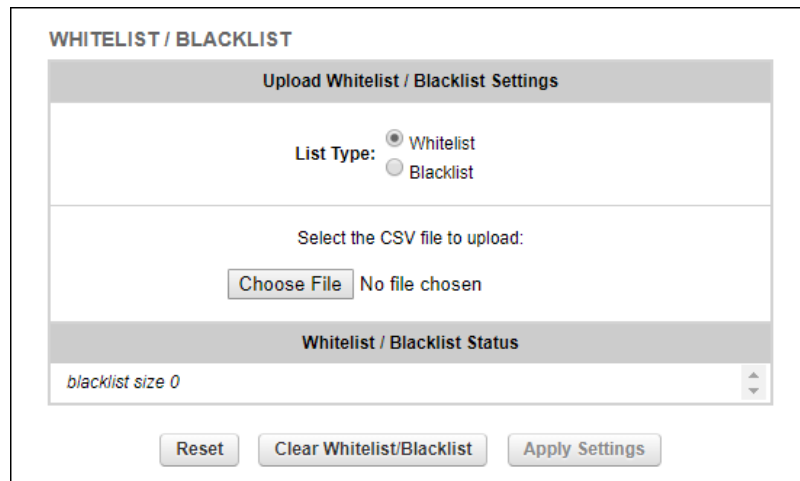

Figure 40. Configurator (Pass list / Block list dialog)
- The **Pass list / Block list** dialog will be shown (Figure 40 \(page 114\)).